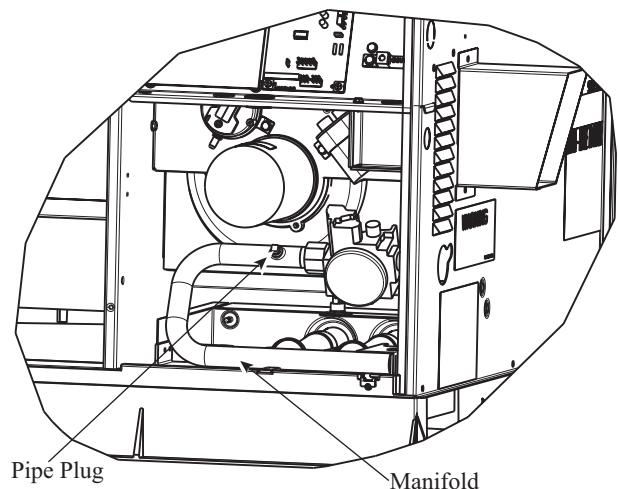

Fig. 1 – Burner Assembly
- a. Remove pipe plug on manifold (See Fig. 1). Screw-in a 1/8" NPT brass hose barb and connect manometer by sliding connecting hose over the barb.
- If using a hoses barb on the manifold pipe, remove hoses barb and replace with pipe plug on the manifold (see Fig. 1).